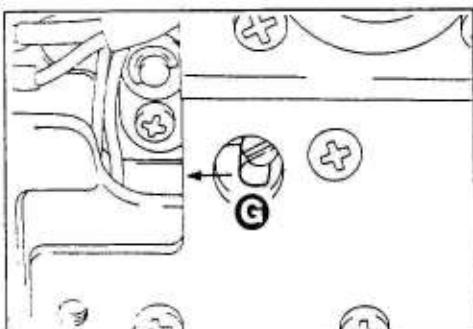

Fig.5
② Push the second curtain **G** (white) and let it run. (See Fig. 5.)
(Through the hole in the lower substrate insert No.2 (-) screw driver and release the shutter. (See Fig. 5.)